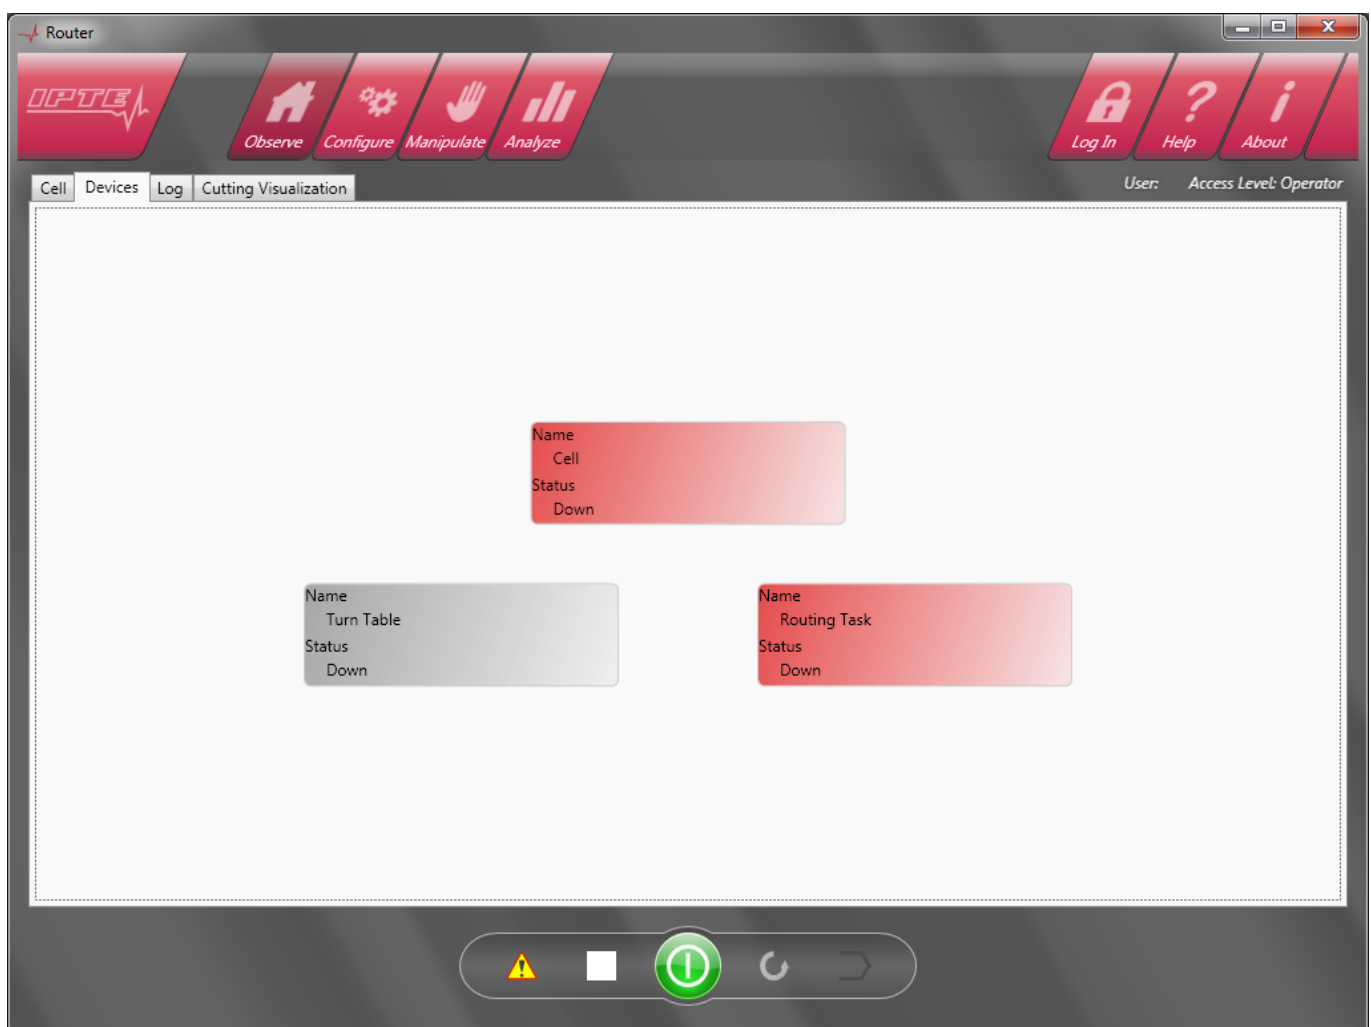
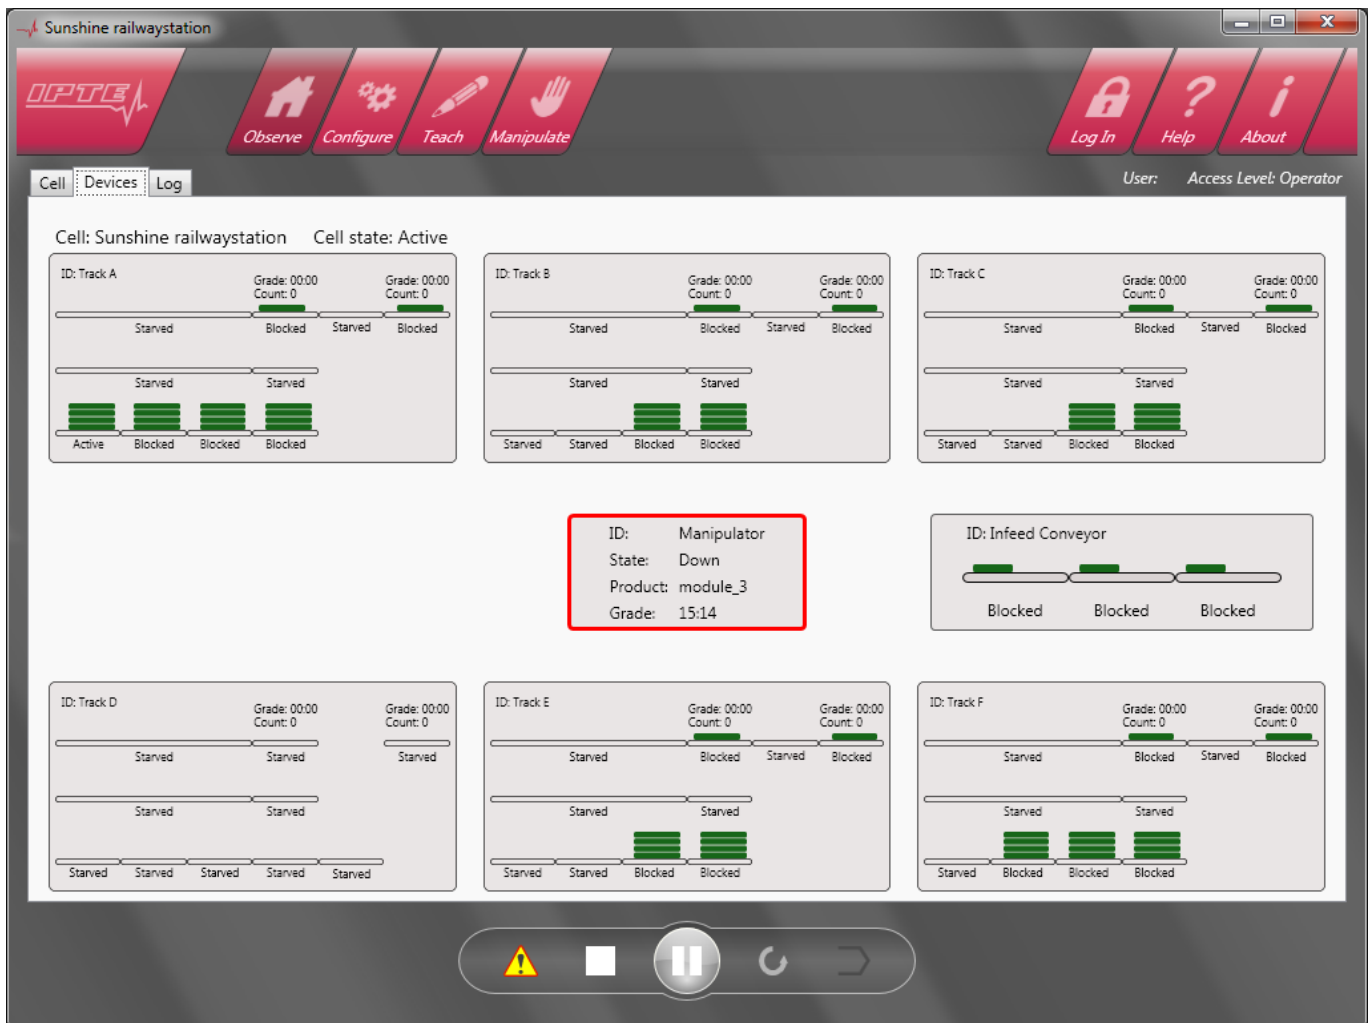

Figure 7: A trivial devices page for a machine with only two autonomous devices
Figure 8: A sample of complex devices page for 50+ autonomous devices. Each conveyor segment on this illustration has autonomous thread operating it.
**Warning: implementation details!** The devices page (Figure 7, 8) will reflect internal state of the PLC in machines with "divide and conquer" style architecture. The architecture implies that a complex machine with multiple asynchronous processes are divided into simpler sub-machines (or *devices*) which may communicate with each other through SMEMA-like interface. In this case each of the machines has its own internal state (off, down, setup, active, etc), each of them may be in error condition, etc. The state of the whole machine is then (to be compatible with IPC-2541 standard) the highest state of the sub-machines. The devices page will help to diagnose the status of individual sub-machines and to monitor the internals of the machine. It can be trivial (Figure 7) in machines containing only couple of sub-machines or complex (Figure 8) in machine that contains tens of sub-machines.